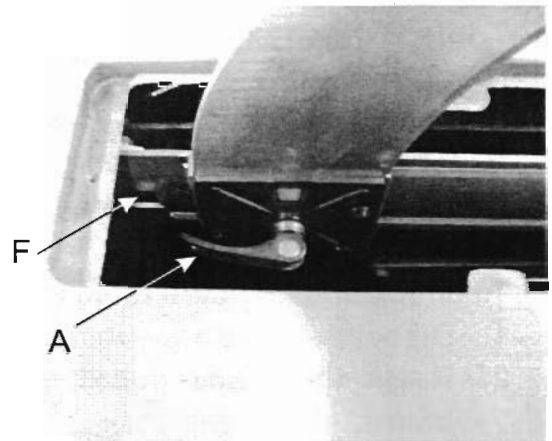
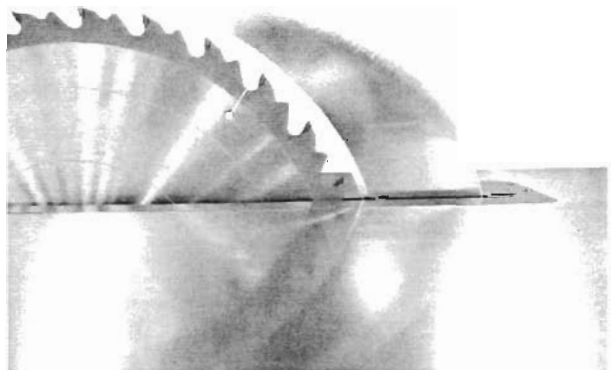

Figure 20
Figure 22
4. Loosen the lock handle (A, Fig. 20) and remove the riving knife, making a note as to which direction the riving knife needs to be moved to align it with the saw blade.
To comply with the regulations, the gap between the saw blade and riving knife must be between 3 and 8mm (Figure 22) to reduce the possibility of kickback. For safety reason, this have set for 5 to 6mm at factory before shipment.
4. Tighten the socket head flat screws (E).
5. Reinsert the riving knife; tighten the lock handle (A, Fig. 20) and check that the saw blade/knife gap is between 3-8mm (Figure 22).